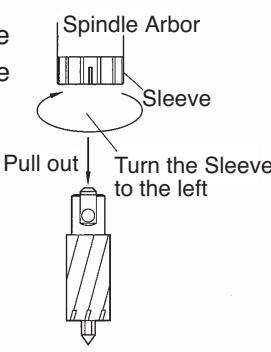

Fig. 13
(4) To remove the cutter, turn the Sleeve counterclockwise. The cutter will come off. (Fig.13)